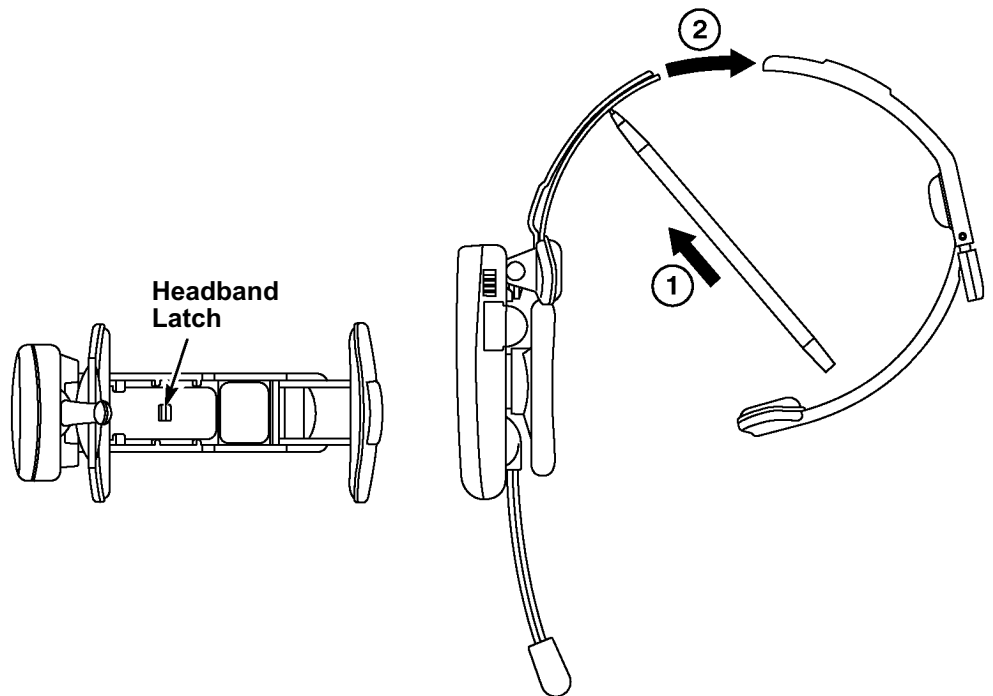

Figure 10.
3. Using a ball point pen, release the headband latch and slide the 2-piece headband apart. See Figure 10.